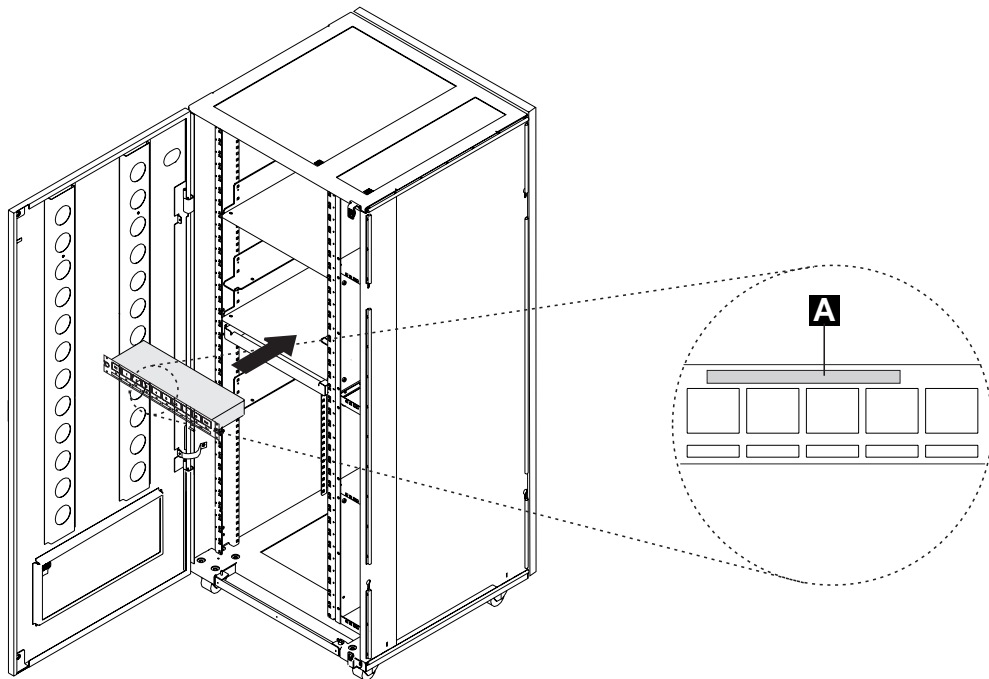

Figure 1-16. Installing the 8228 (Controller Expansion Rear side)
6. ____ Install the 8228 in a safe place near the service processor. If you received a controller expansion, the 8228 is installed on the rear side of the controller expansion using two screws (PN 1621232) and two captive nuts (PN 58G5766) see Figure 1-16. Using label **A** (PN 0782966), identify the 8228 as Service Processor Access Unit.